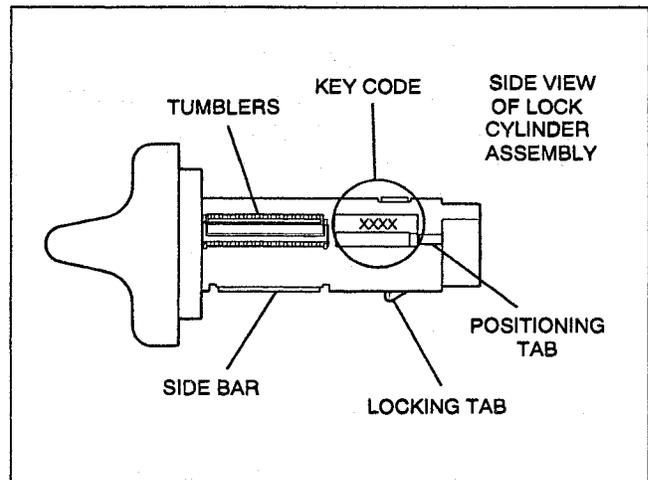

Figure 13 - Location of Key Code
19. Record "Key Code" from old lock cylinder. (See Figure 13)